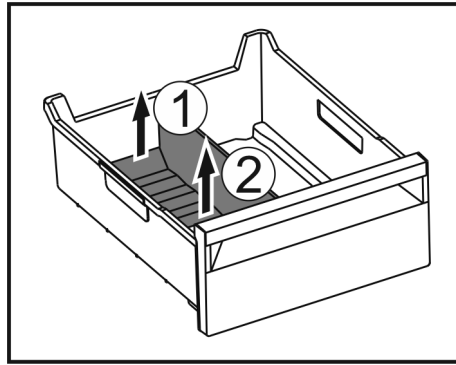

Fig. 139
- ▶ Lift the rear part of the ice compartment divider. Fig. 139 (1)
- ▶ Remove the ice compartment divider upwards. Fig. 139 (2)